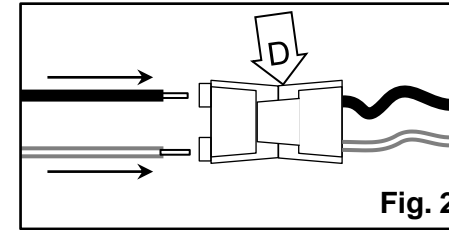

Fig. 2
3. Open the **wire cover (B)** and thread the **supply wires** through the **knockout (C)**. Insert the **supply wires** into the **quick connector (D)** aligning the **black supply wire** with the **black fixture wire** and the **white supply wire** to the **white fixture wire**. [Fig. 2]